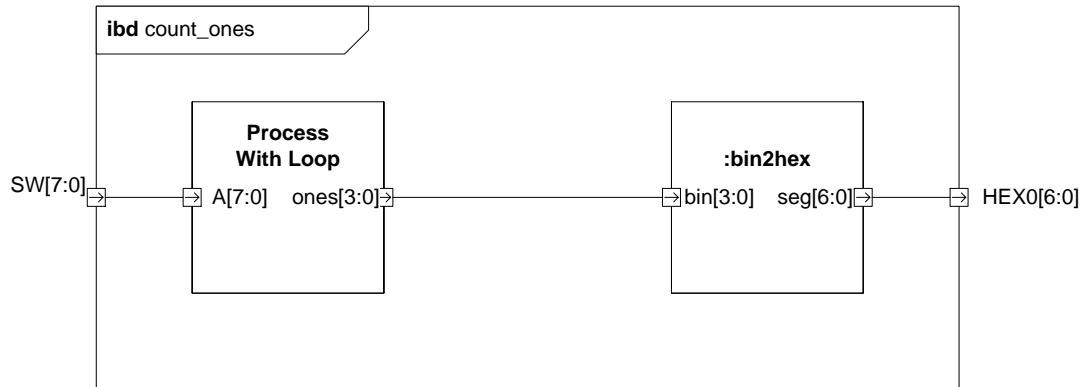

FIGURE 7 COUNT ONES IBD
- 1) Design a process to implement the functionality described above. Use the binary to 7-segment converter designed previously and the interface depicted in Figure 7.